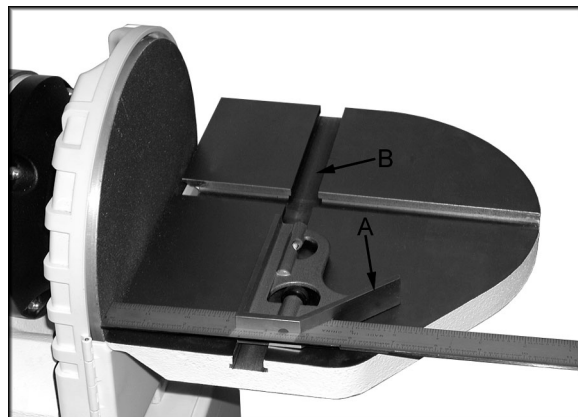

Figure 12
3. Place a combination square (A, Fig. 12) in the miter gauge slot (B, Fig. 12) and check the distance from the slot to the edge of the sanding disc. Slide the square along the slot to the other end of the disc and check the distance. The distances should be equal to ensure that the miter gauge travels parallel to the disc.